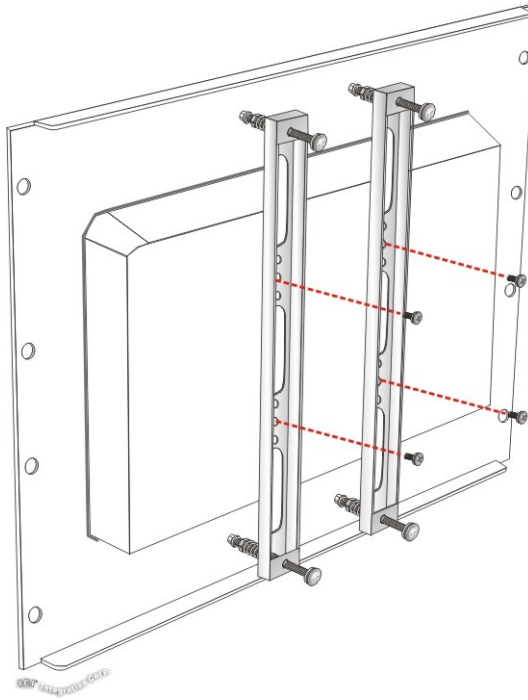

Figure 3-21: Securing Rack Mounting Brackets
- Step 5:** Secure the two rack mounting brackets to the rear of the panel PC by inserting the four retention screws into the VESA mounting holes and tightening them (Figure 3-21).